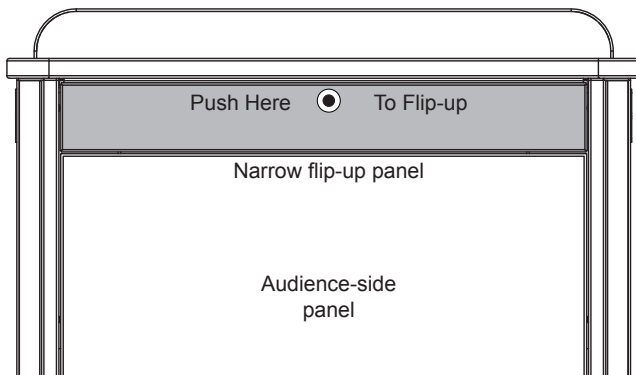

Figure 2A
1. Push in the top of the narrow flip-up panel to access the locks. (Do not pry open this panel). **Figure 2A.**